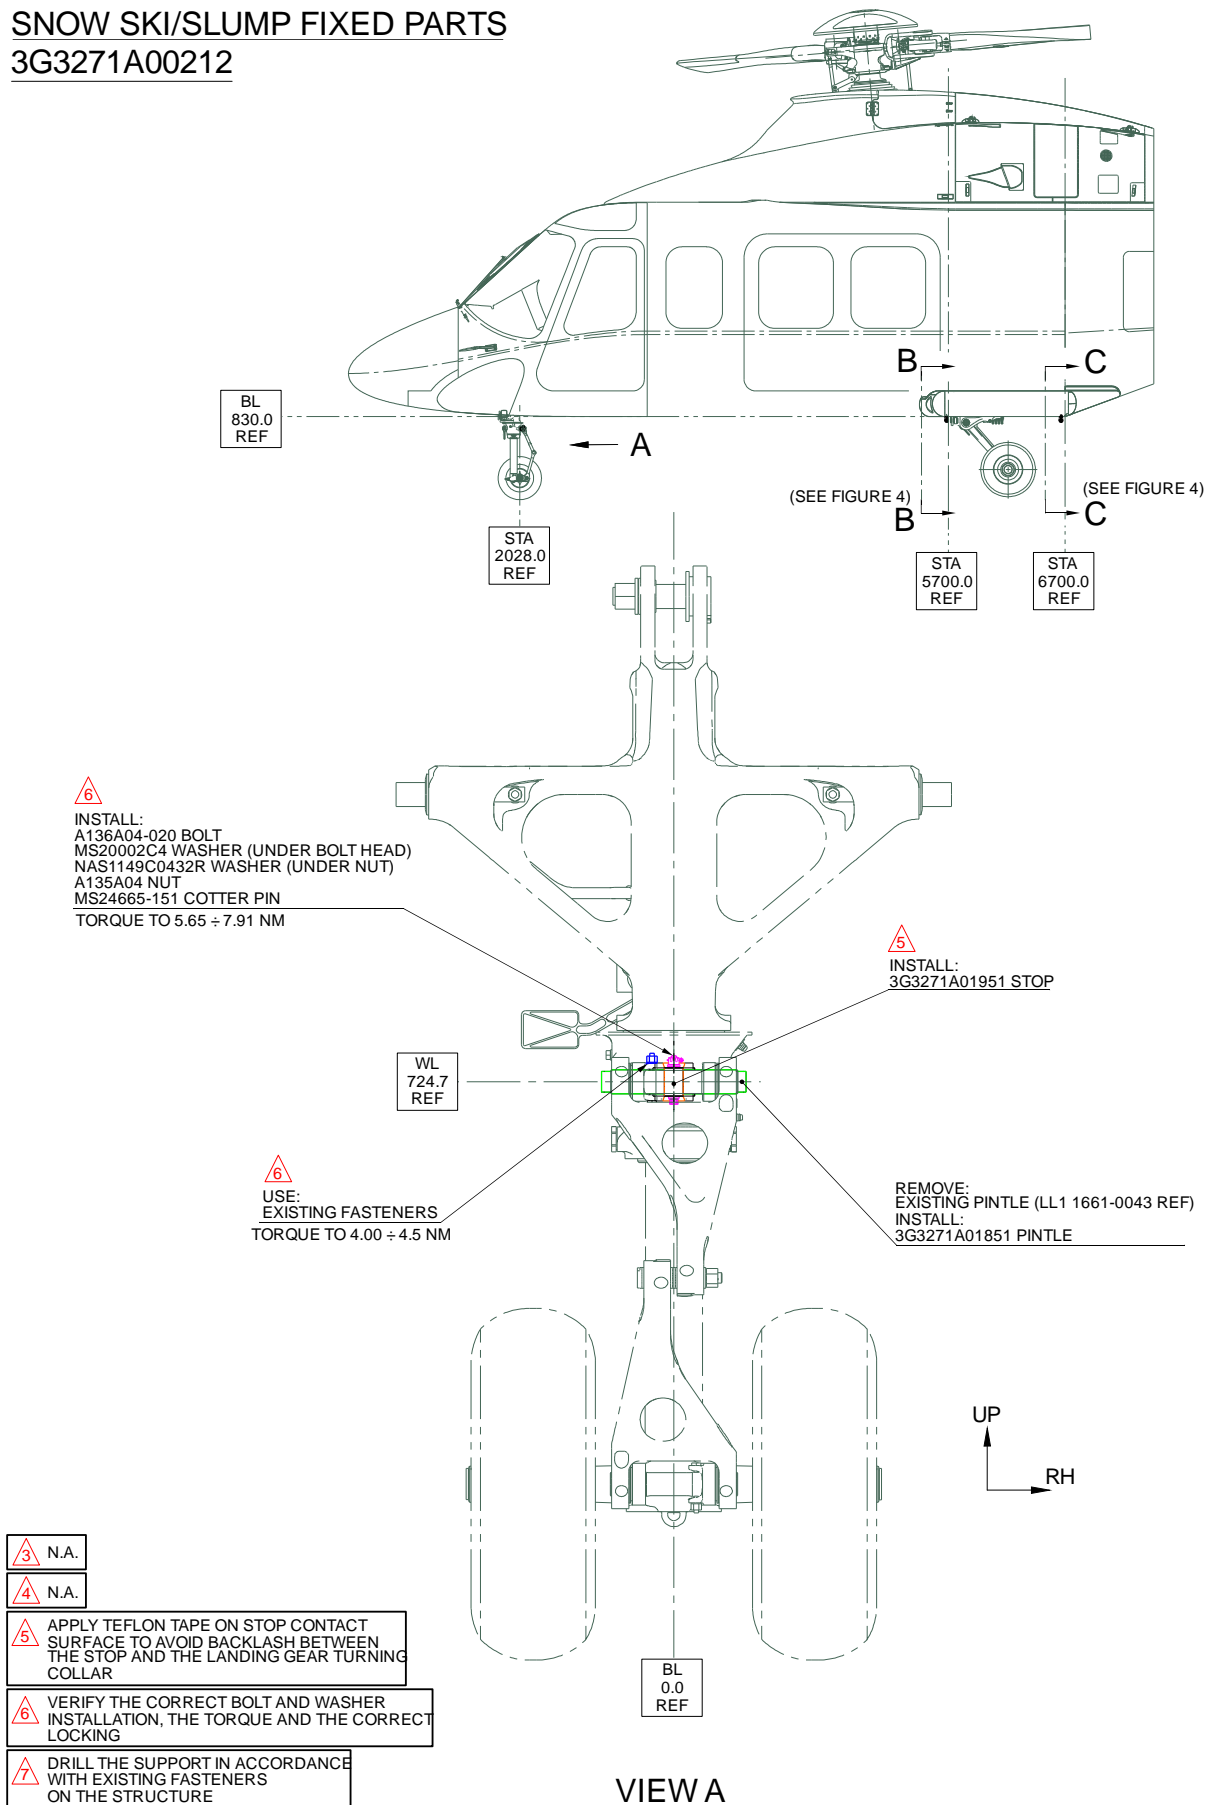

Figure 3
8. With reference to Figures 3 and 4, perform snow ski/slump pad fixed parts P/N 3G3271A00212 as follows:
- 8.2 With reference to Figure 3 and in accordance with applicable steps of AMP DM 39-A-32-73-01-00A-720A-K or DM 39-A-32-74-01-00A-720A-K, get access to the NLG and install the following components by means of hardware indicated in Figure 3 View A:
- The stop P/N 3G3271A01951 (see note on Figure 3 View A).
- 8.3 With reference to Figures 3 and 4, get access to the LH MLG.
- 8.7 With reference to Figures 3 and 4, verify the correct installation, the torque and the locking of the bolts and washers previously installed.